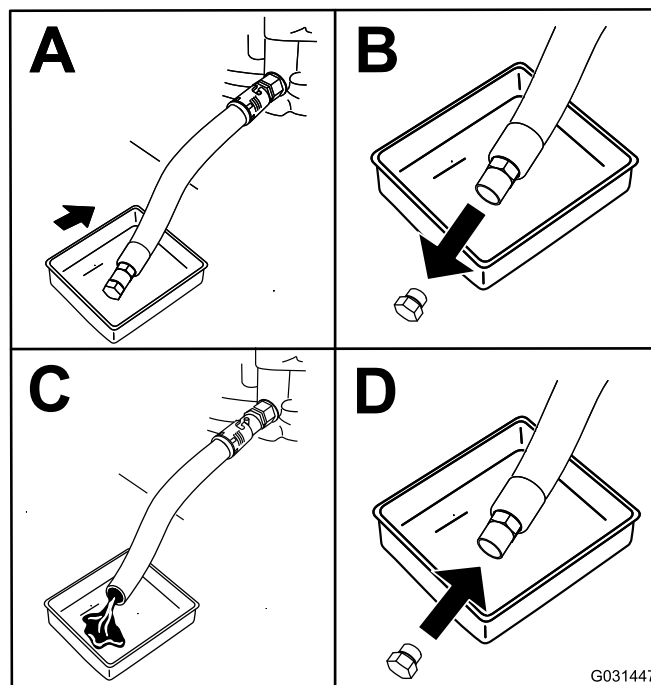

Figure 44
4. Change the engine oil as shown in Figure 44.